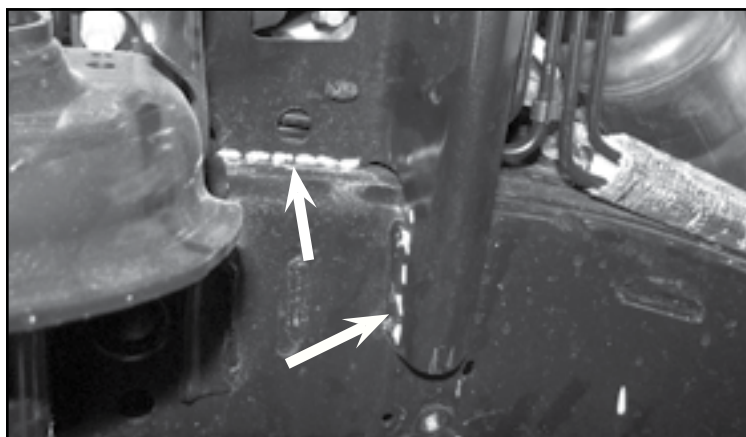

FIGURE 5 - STEP 6
6. **Driver side upper shock mount:** Using a paint pen. Mark the factory welds that attach the shock tower mount to the frame. **SEE FIGURE 5**